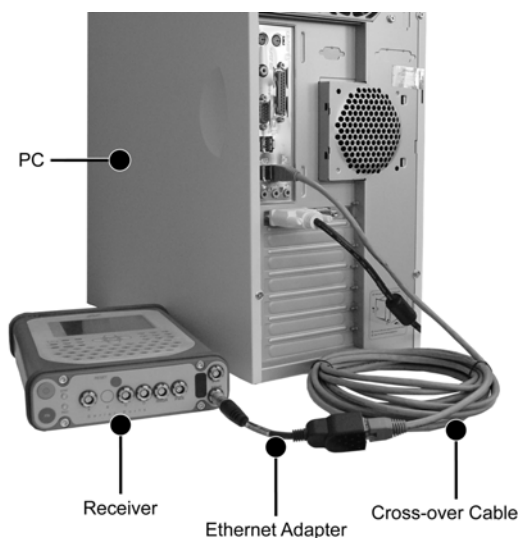

Figure 1-4. Direct Ethernet Connection – Hardware Setup
8. Connect the Ethernet cables (Figure 1-4 on page 1-15):